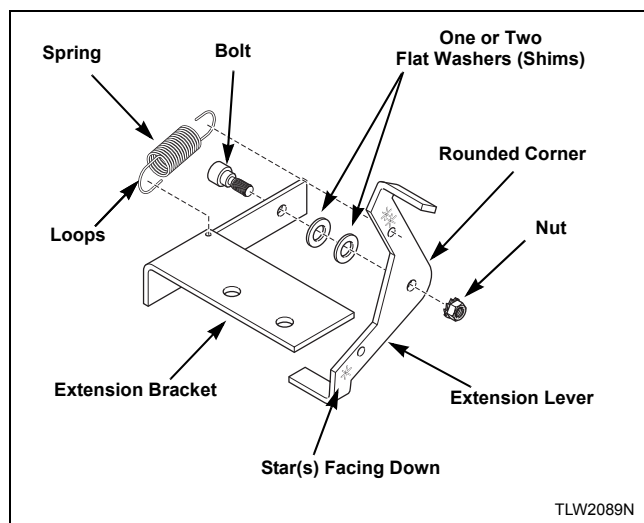

Figure 27
4. Install extension lever with rounded corner facing away from extension bracket using bolt, one or two flat washers (shims) (use number of washers included in kit) and nut. Refer to *Figure 27*. Make sure washers are flat against bracket.
6. Install extension spring in bracket hole and hole in upper arm of lever. Refer to *Figure 27*.